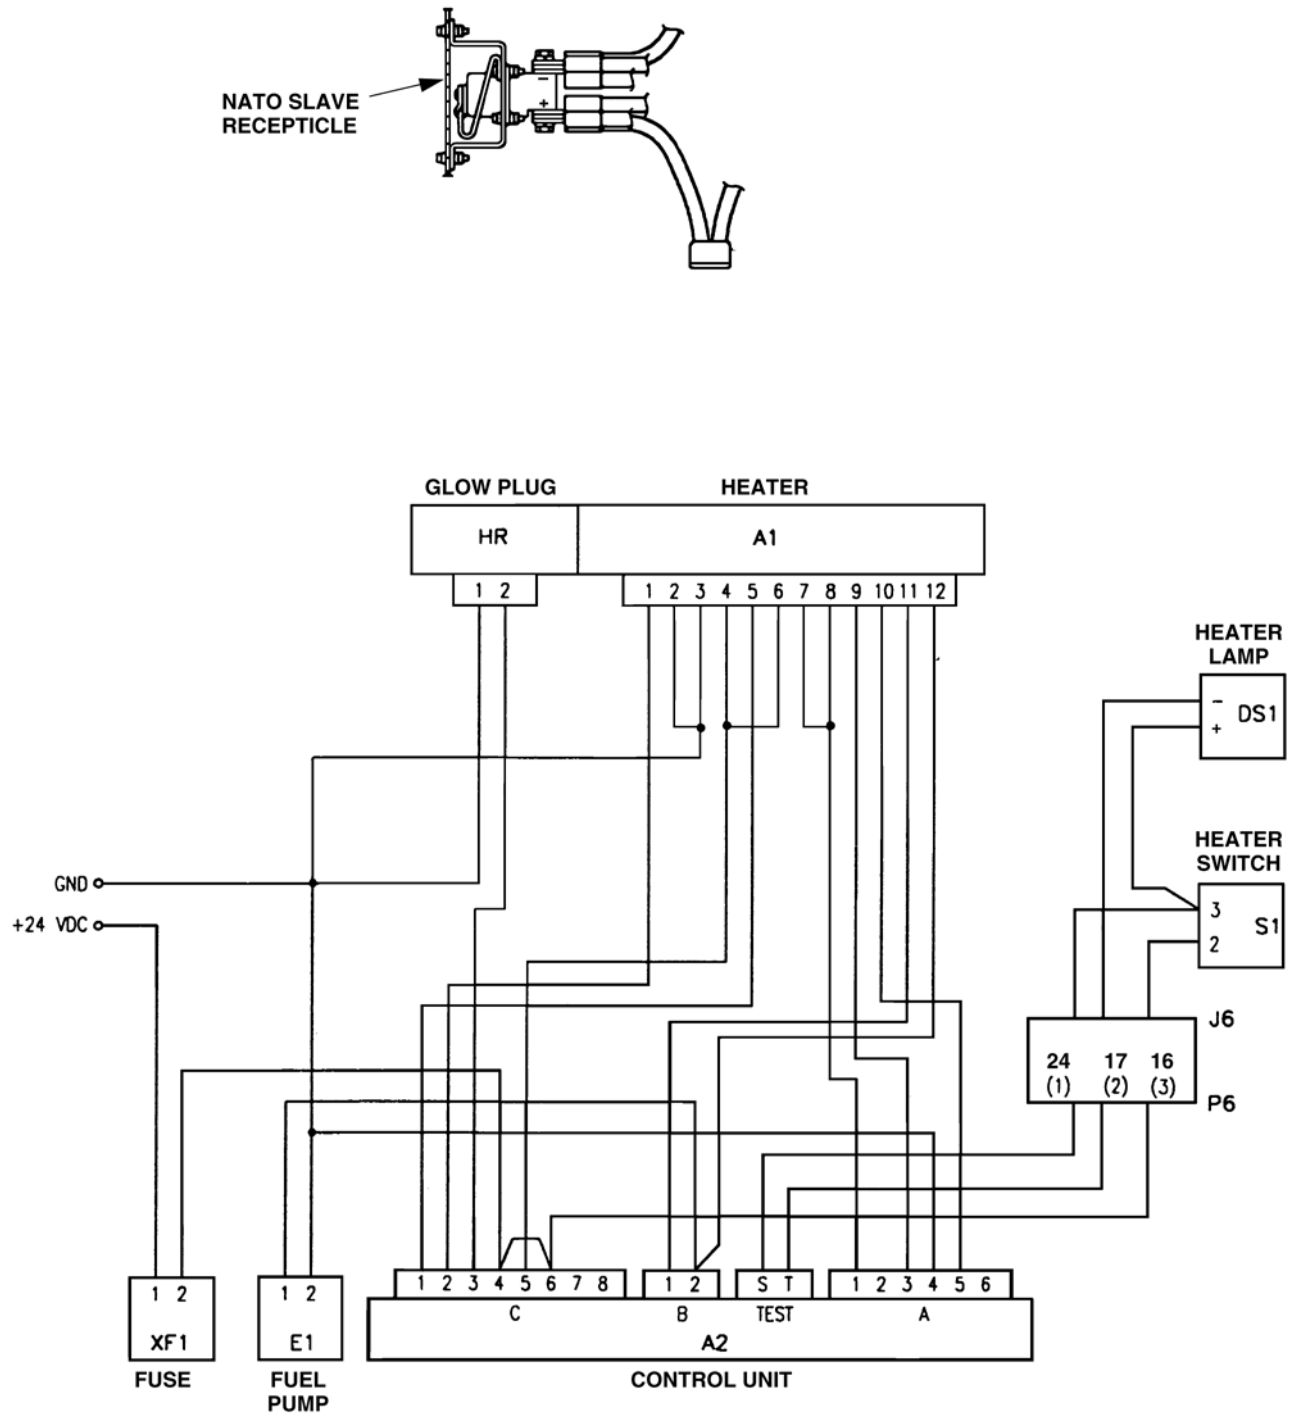

Figure 4-34. Wiring Harness Removal
- 5. Remove electrical leads from J6-16, 17, and 24, Figure 4-34.
10. Remove wiring harness from generator. Refer to figure 4-34.